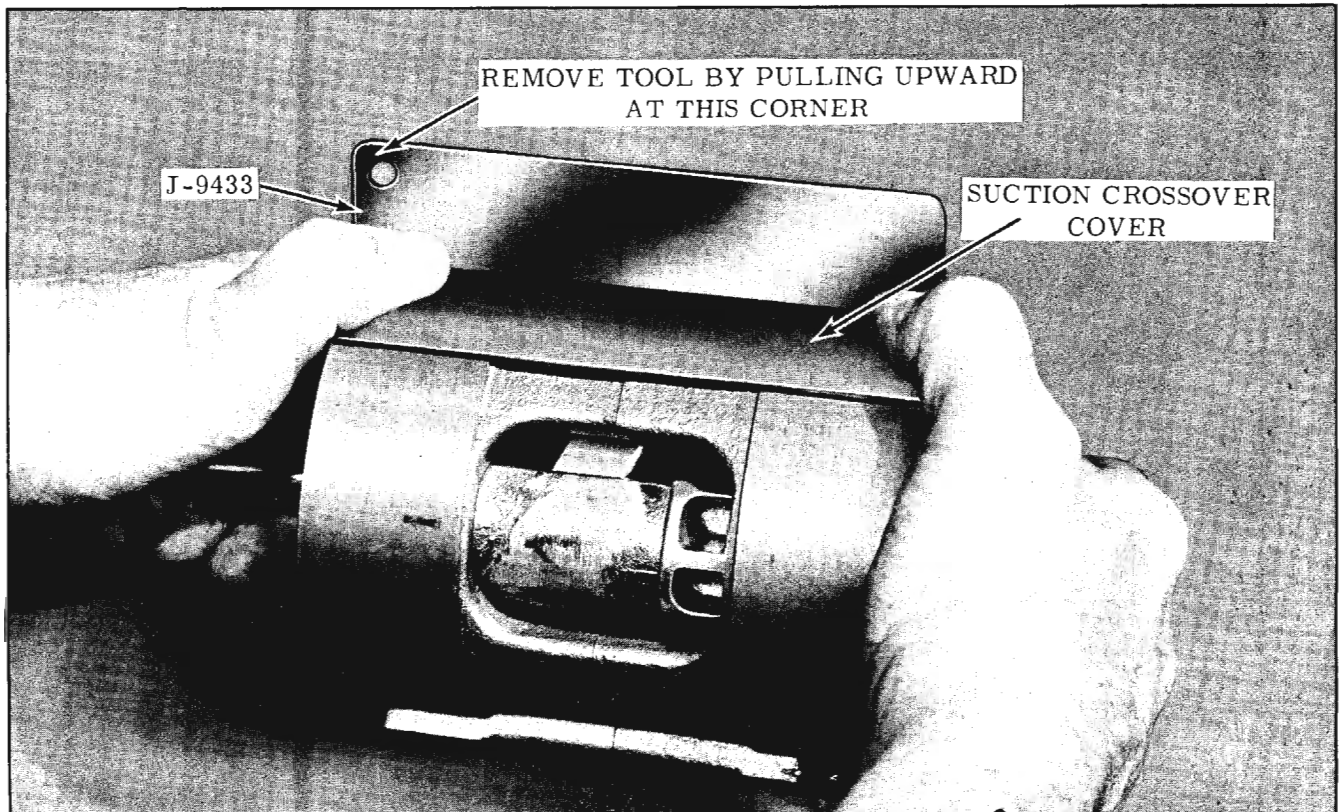

Fig. 15-80 Installing Suction Crossover Cover and Seal
24. Assemble a new rectangular gasket to the suction crossover cover. Coat the gasket with Frigidaire 525 Viscosity Oil. Start one side of the gasket and cover into the "dove tail" slot in the cylinder. Position Tool J-9433 between the gasket and the "dove tail" slot. Center the cover and gasket with the ends of the cylinder faces. Press down on the cover to snap it into place and remove tool. (Fig. 15-80)